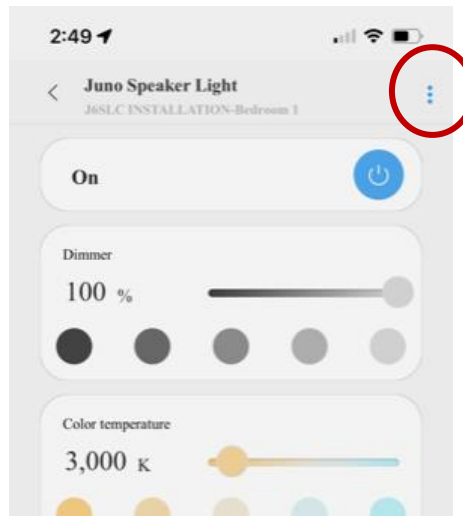

Figure 10
6. Select the product tile icon in the upper right-hand corner of the device settings. (Figure 10)